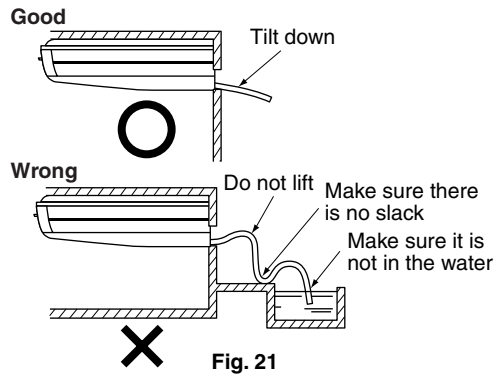

Fig. 21
(1) Carry out the drain piping.
- Make sure the piping is short, has at least a 1/100 slope, and can prevent air pockets from forming. **(Refer to Fig. 21)**